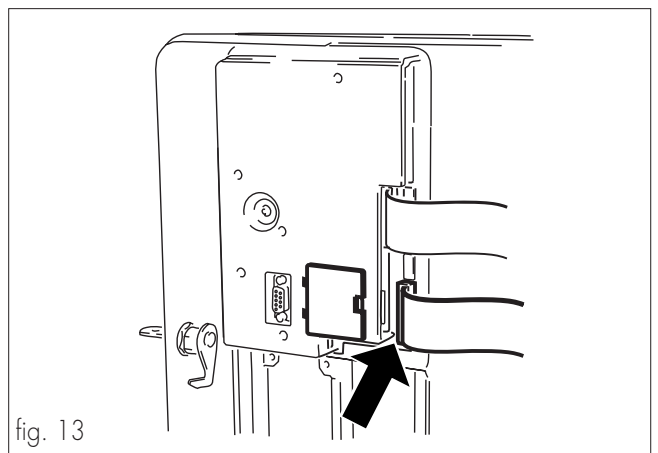
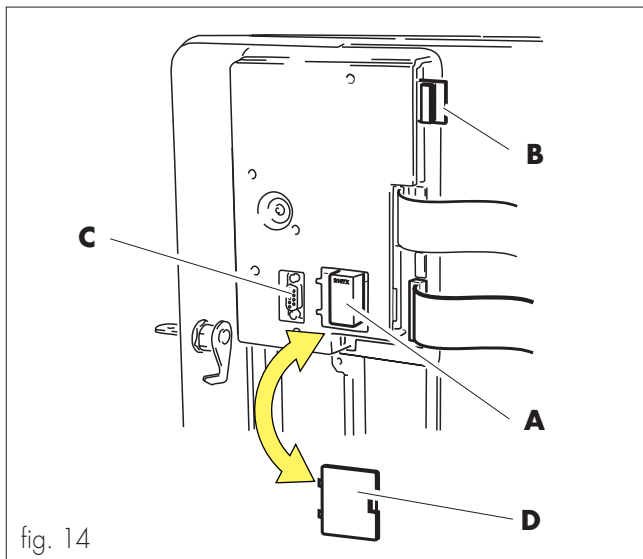

fig. 13
fig. 14
- Connect the flat cable to the electronic board (fig. 13).
- open the vending machine door (ref. **29**, fig. 1) and remove the small door (ref. **D**, fig. 14);
- insert the module (ref. **A**, fig. 14) in the electronic board connector.
*The module (ref. **A**, fig. 13) is inserted properly when the reference mark is in the lower part (fig. 14).*
- Re-fit the small door (ref. **D**, fig. 14).
- Open the vending machine internal access door (fig. 14).
- Insert the key (ref. **B**, fig. 14) in the electronic board connector.
A serial port (ref. **C**, fig. 14) is installed beside the "clock module" connector.